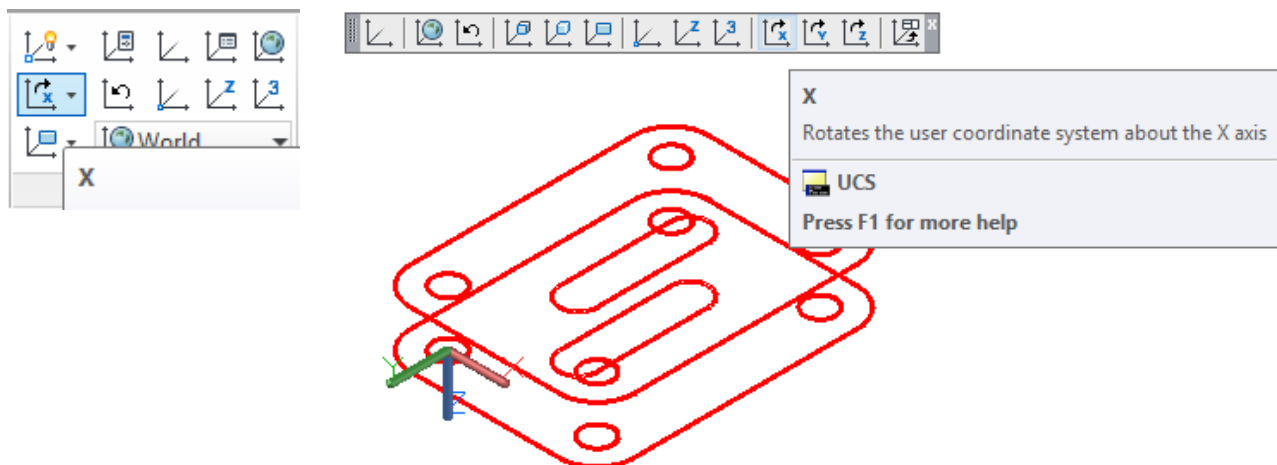

Figure Step 15
Step 15 Click the Rotate X Axis UCS icon on the UCS toolbar and rotate it 180 degree rotation. This will rotate the UCS so that the positive Z direction is pointing down. (Figure Step 15)